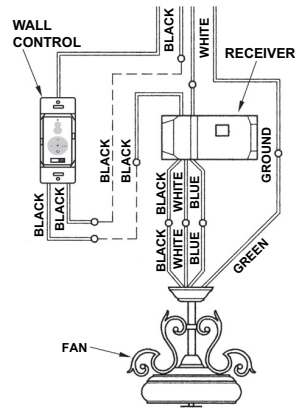

Fig.16
Step 2. Make the electrical connections as shown in Fig.16. If your outlet box has a ground wire (Green or Bare Copper) connect the Transmitter's ground wire directly to one of the screws from the outlet box . Secure all wire connections with the plastic wire nuts provided.